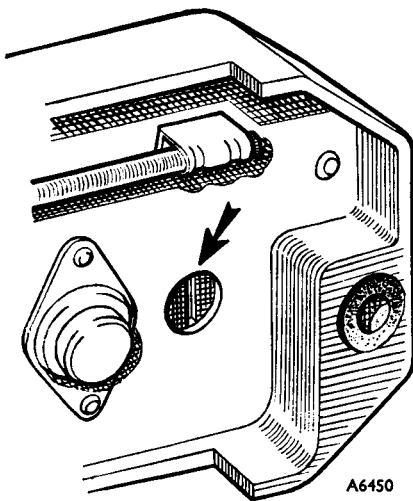

Fig. N.15
- e. Turn the adjuster slot gradually until the voltmeter registers a stable reading within the correct voltage limits (see Fig. N.15). Only a small adjuster movement is needed to effect an appreciable difference in the voltmeter reading.